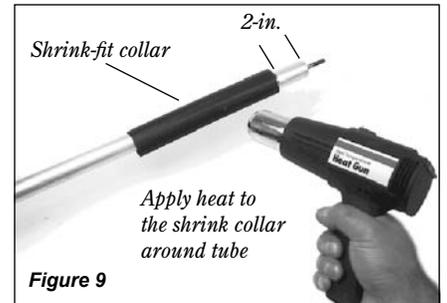

Figure 9
7. Make a mark on the tube, 2 inches from the upper end. Slide the heat shrink collar onto tube and align its upper end with the mark on the tube. See Figure 9.